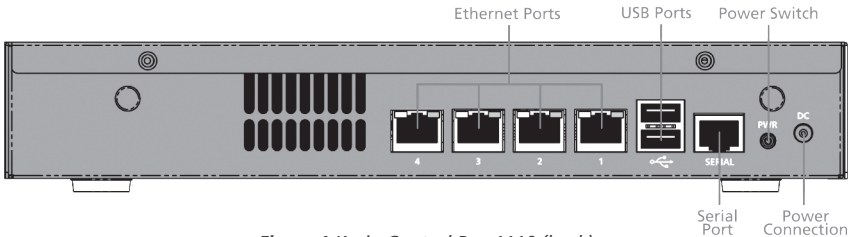

Figure 1 Kerio Control Box 1110 (back)
- Kerio Control Box 1000 Series — Sub-1U table mountable appliance — see figure 1.